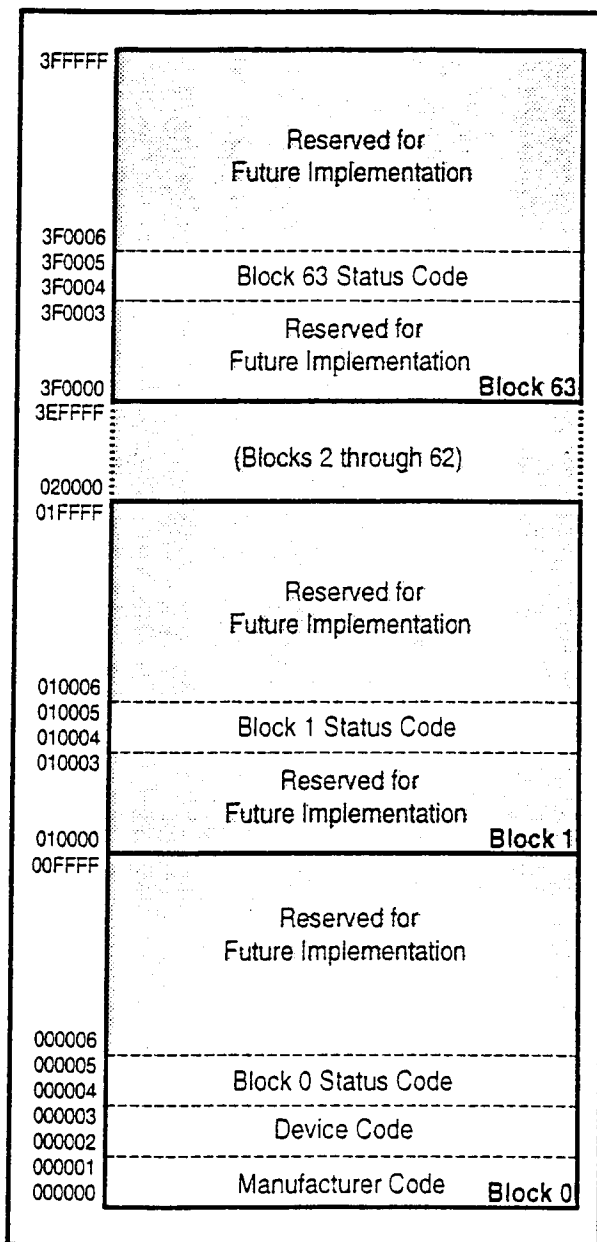

Figure 5. Device Identifier Code Memory Map
The read identifier codes operation outputs the manufacturer code, device code, block status codes for each block (see Figure 5). Using the manufacturer and device codes, the system CPU can automatically match the device with its proper algorithms. The block status codes identify locked or unlocked block setting and erase completed or erase uncompleted condition.
IA=Identifier Code Address: see Figure 5.
The identifier code operation is initiated by writing the Read Identifier Codes command. Following the command write, read cycles from addresses shown in Figure 5 retrieve the manufacturer, device, block lock configuration and block erase status (see Table 5 for identifier code values). To terminate the operation, write another valid command. Like the Read Array command, the Read Identifier Codes command functions independently of the V_{PP} voltage and RP# must be V_{IH} . Following the Read Identifier Codes command, the following information can be read:
1. X selects the specific block status code to be read. See Figure 5 for the device identifier code memory map.